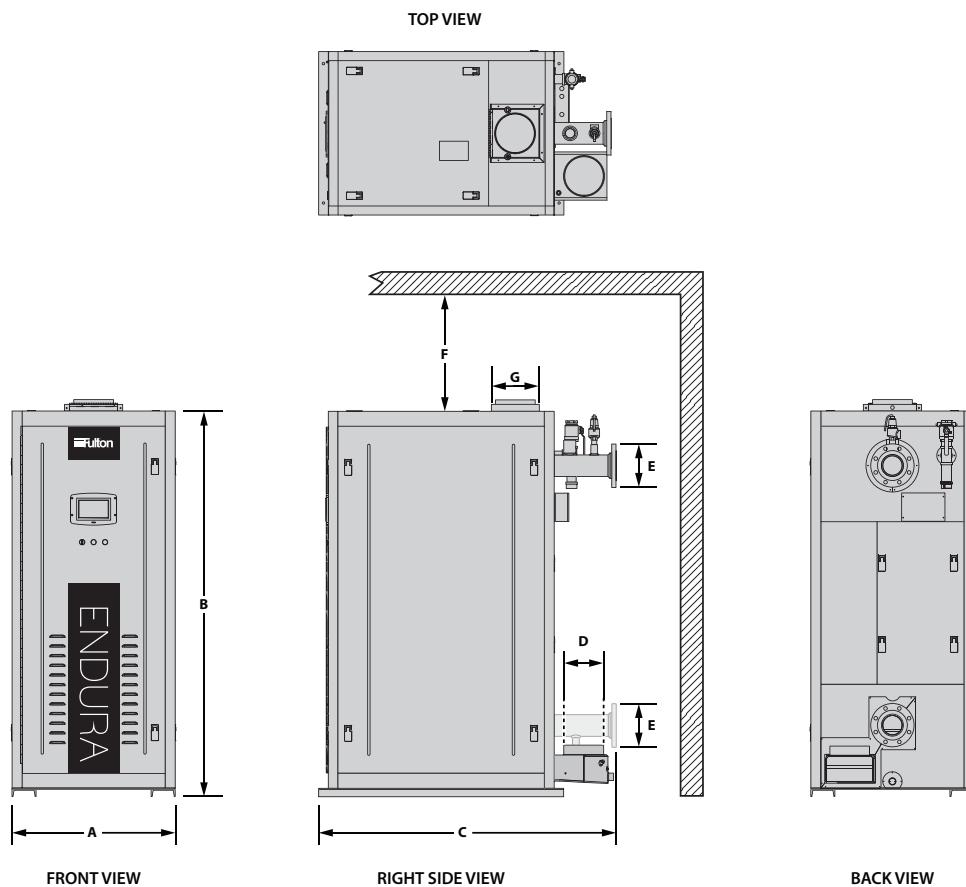

FIGURE 1 - VIEWS OF ENDURA HYDRONIC BOILER
Prior to the performance of installation, operation, or maintenance procedures, personnel should become familiar with the equipment (Table 1 and Figure 1) and its components.
2. Appropriate front, back, side and top clearances must be maintained (Figure 1). This will allow access around the equipment to facilitate maintenance and a safe work environment. A 1-inch (25.4 mm) side clearance is acceptable between any number of boilers. Custom configurations may not allow 1-inch (25.4 mm) side clearance. Although a 1 inch (25.4 mm) side clearance is permitted, allowing 24 inches (610 mm) will facilitate and expedite maintenance and any advanced troubleshooting.